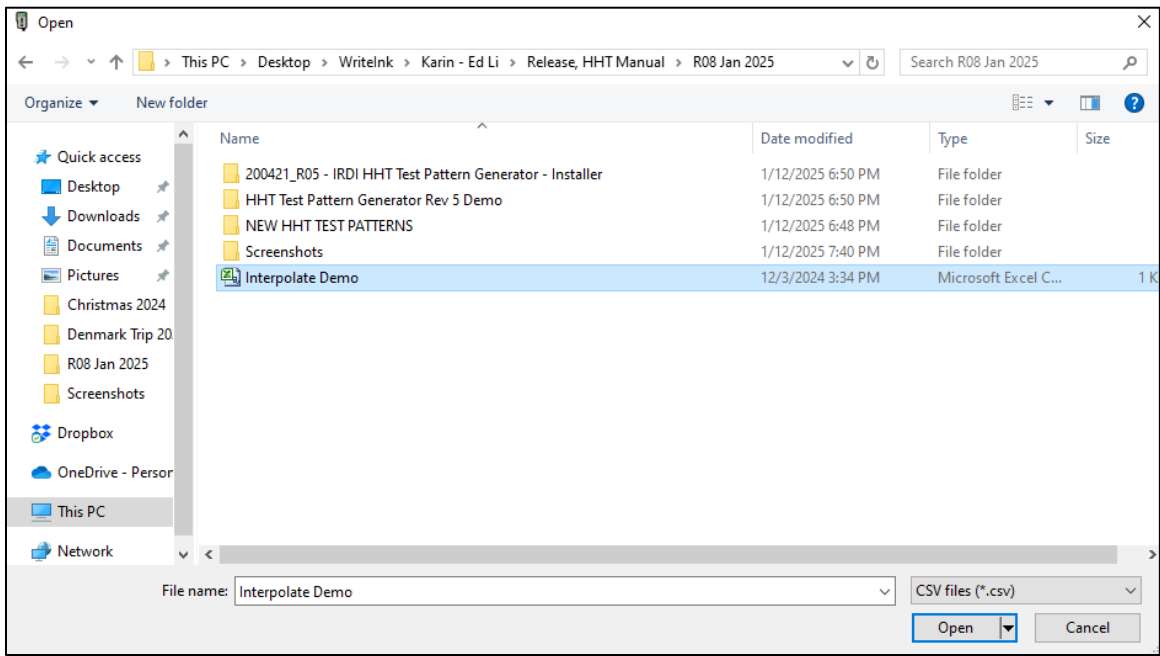

FIGURE 6-46 HHT TEST PATTERN GENERATOR SOFTWARE –INTERPOLATED VALUES FILE
STEP 2	A browser window will pop up – see Figure 6-46. Browse to the folder where the interpolation data file is located, select the file, and click on the “Open” button, to open the file.